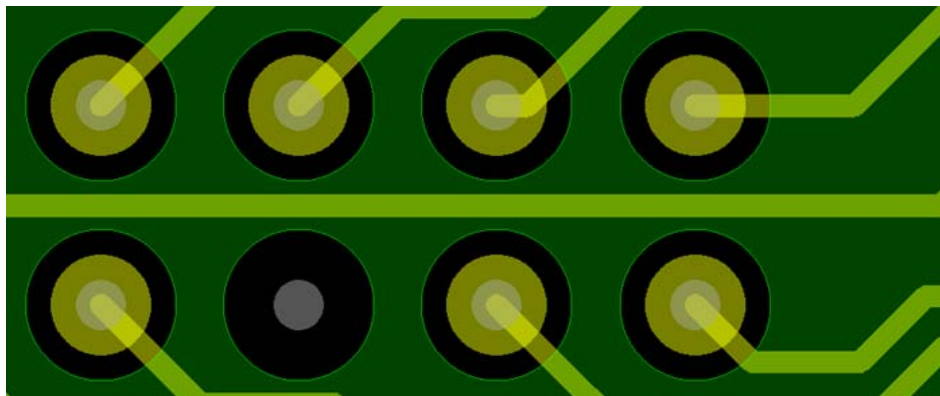

Figure 4-8: **Breakout Region Routing**
5. In the breakout region, route signal lines in the middle of the via void aperture. Avoid routing at the edge of via void, as shown in Figure 4-8.